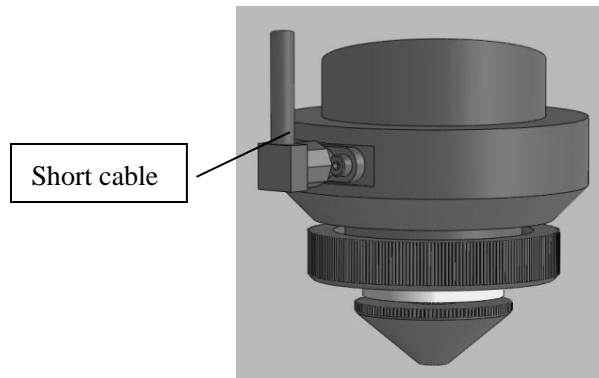

Fig.21
1. Remove the short cable from the bottom suite, which is as shown in Fig.21.